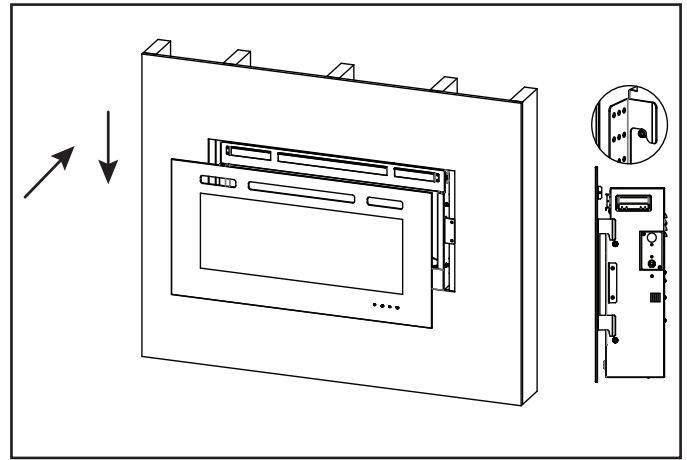

Figure 4.17 Glass Front Installation
2. Install front panel. Locate the J-hooks on the back side of the glass on the four rivnuts on the appliance opening. Press down on top edge of glass to fully engage J-hooks on the rivnuts. See Figure 4.17.